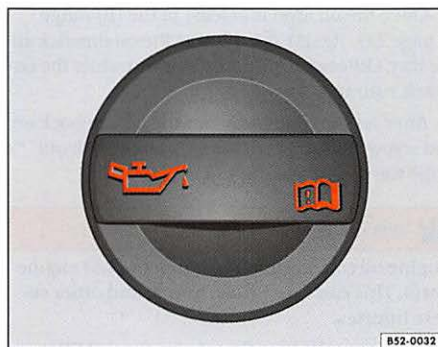

Fig. 152 In the engine compartment: Engine oil filler cap.
- The engine oil filler cap is marked with the  symbol $\Rightarrow$ fig. 152. The oil dipstick has a colored handle.
- Unscrew the cap of the engine oil filler opening $\Rightarrow$ fig. 152 from the cylinder head cover. If you are not sure where it is, contact your authorized Volkswagen dealer or authorized Volkswagen Service Facility.